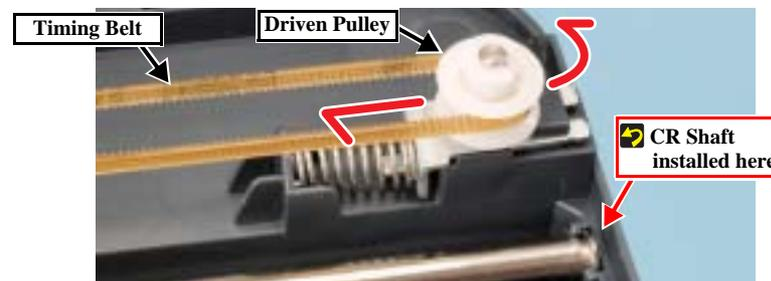

Figure 4-43. Removing the Timing Belt
2. Remove the Timing Belt from the Driven Pulley while relaxing the belt tension for the CR Shaft. (Fig. 4-43)
- Install the CR Shaft while fitting its grooved end in the guide of the Lower Housing. (Fig. 4-43)